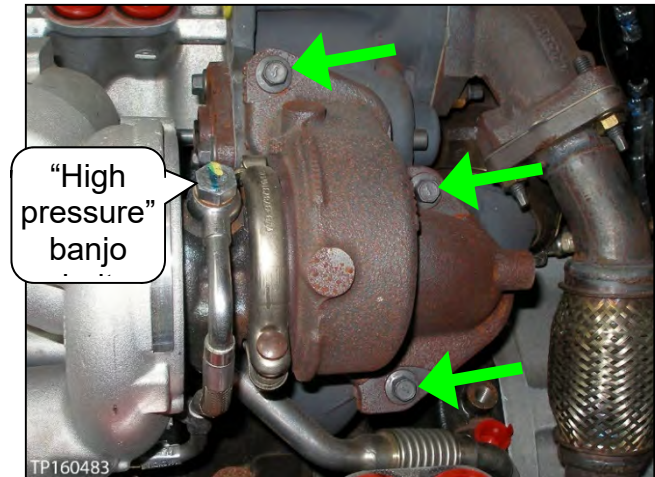
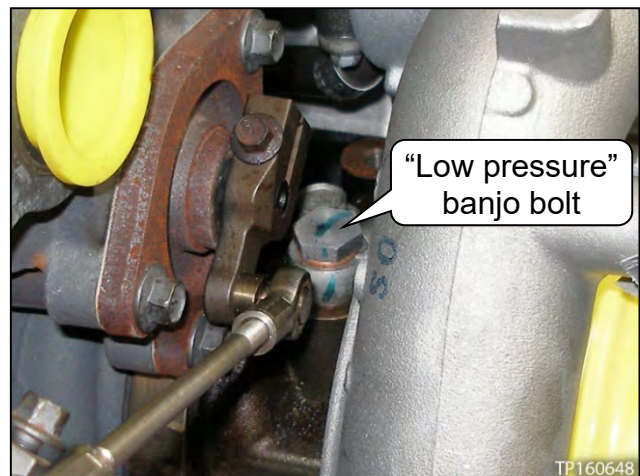

Figure 67
Figure 68
9. Torque the three (3) bolts shown in Figure 67.
10. Torque the banjo bolts (see Figure 67 and Figure 68).